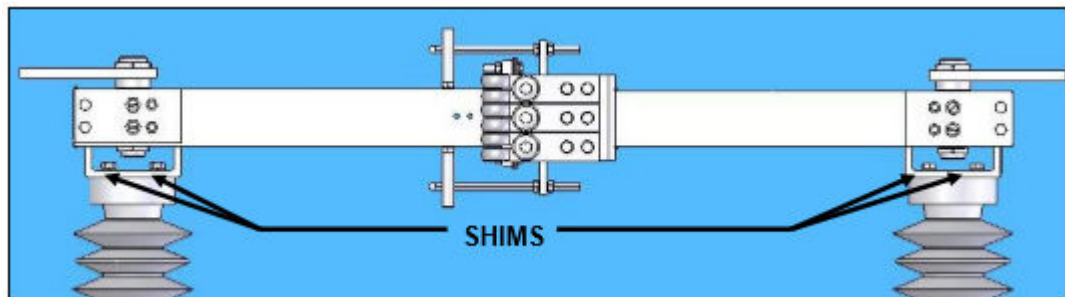

Figure 10: Blade Contact Adjustment
5. **Table 2**). Refer to **Figure 10**.